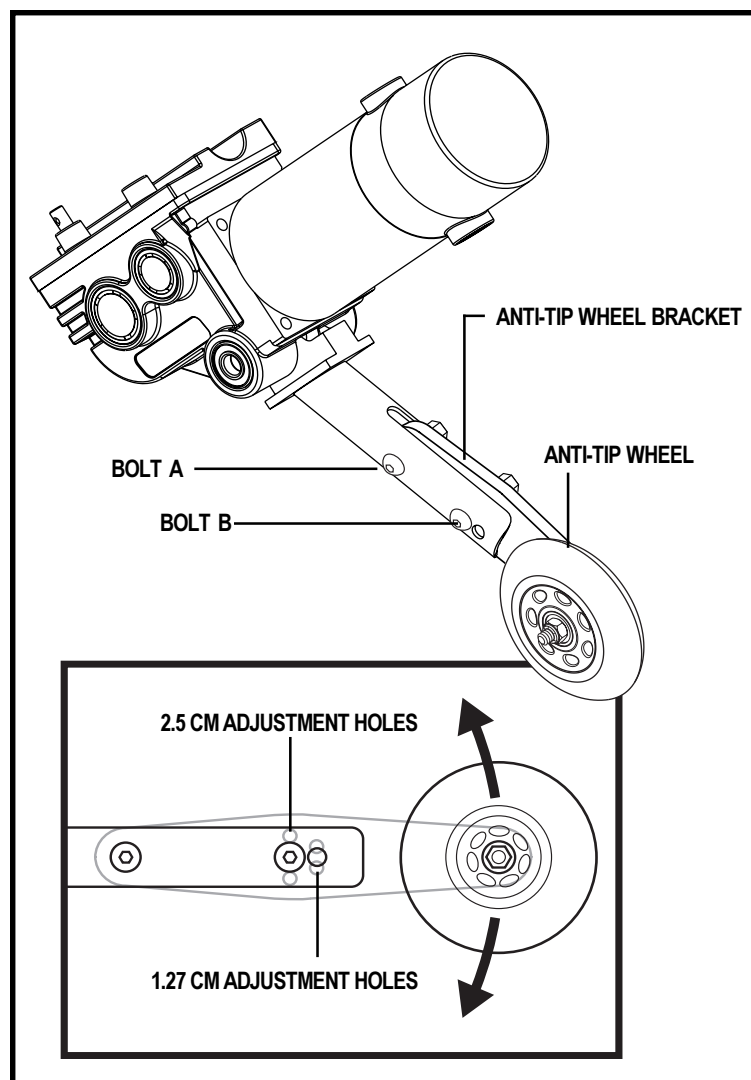

Figure 18. Anti-Tip Wheel Assembly
1. Loosen bolt A. See figure 18.
3. Raise or lower the anti-tip wheel by 1.27 cm or 2.5 cm increments by aligning the appropriate adjustment holes. See figure 18.